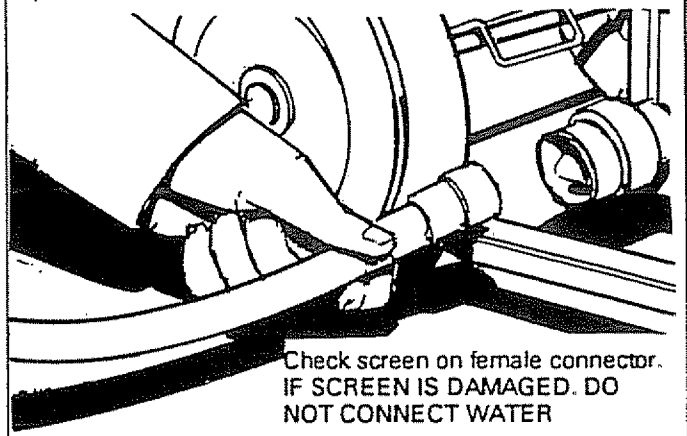

FIG. 6
- Included with this unit is a Quick-Connect fitting that comes attached to Water Inlet on the pump. The quick-connect includes two parts — a Male Connector and a Female Connector (Fig. 6). Inspect Inlet Screen on female connector. Clean it if it contains debris or have it replaced if it is damaged. **DO NOT RUN THE PRESSURE WASHER IF THE SCREEN IS DAMAGED.**